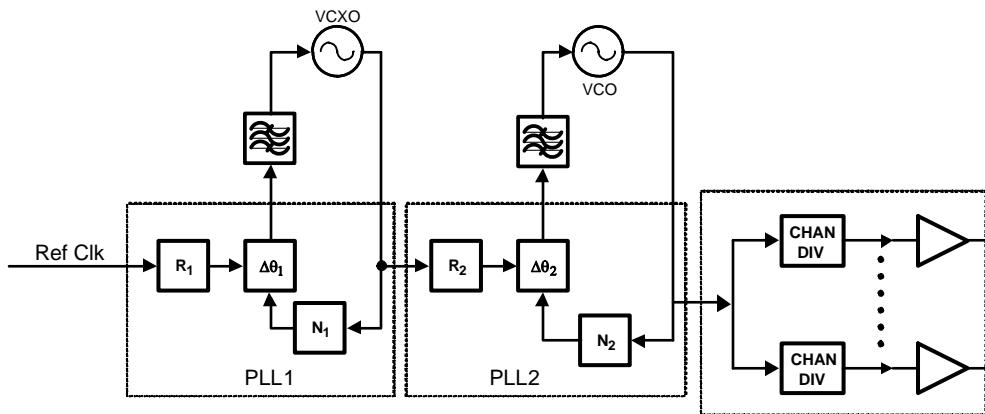

Figure 1. Dual-PLL Jitter Cleaning Clock Synthesizer Architecture
The purpose of this applications report is to present phase noise and jitter measurements representing the clock outputs of the LMK04000 family of Precision Clock Conditioners, when paired with various voltage controlled oscillators (VCXOs). The intent is to illustrate the relationship between clock output phase noise and VCXO phase noise. The LMK04000 family provides superior jitter cleaning capability by employing a dual, cascaded phase locked loop (PLL) architecture. A generic example of a dual PLL architecture is shown in Figure 1. The figure also shows a clock distribution section following the VCO output.
The weighting function $H(f)$ is the lowpass closed loop transfer function, formed by parameters such as the charge pump gain, loop filter response, VCO gain, and feedback path (N) counter. This equation represents the noise model at the output of each of the PLL stages shown in Figure 1. The gains associated with the reference clock noise (G_{REF}) and PLL noise (G_{PLL}) are also functions of specific loop parameters. Though the explicit expressions for these gains and closed loop response $H(f)$ are not derived here, the relevance of this equation can still be seen. In general, the synthesizer parameters that comprise $H(f)$ and the gain values represented in the equation are under the control of the designer and should be chosen such that the overall noise at the synthesizer output ($S_{\text{TOTAL}}(f)$) is minimized. In this case, minimization means achieving the smallest integrated noise. When the noise equation is applied to PLL2, $S_{\text{REF}}(f)$ represents the VCXO noise. In the case of the LMK04000 family, $S_{\text{PLL}}(f)$ and $S_{\text{VCO}}(f)$ are "fixed" by the device characteristics, but $S_{\text{REF}}(f)$ is dependent on the VCXO chosen by the designer. *Therefore it is important to select a VCXO that supports the phase noise and jitter requirements of the target application.*